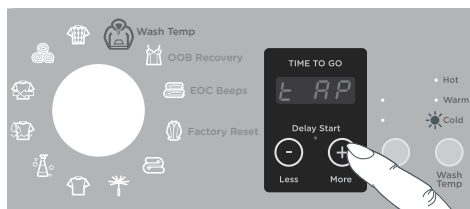

Fig.29 Changing the Cold wash temperature setting to Controlled Cold (WL4027P)
- 2 **For the WL4027P model:** select the HEAVY cycle (Fig.29).